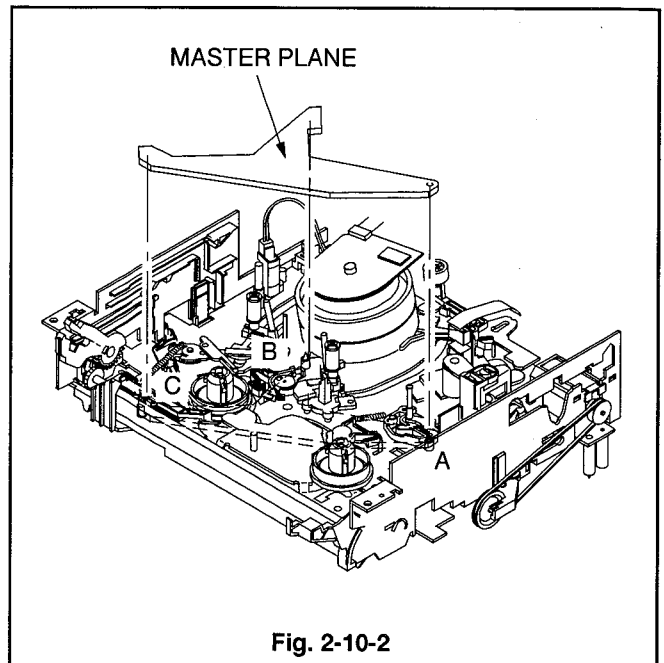
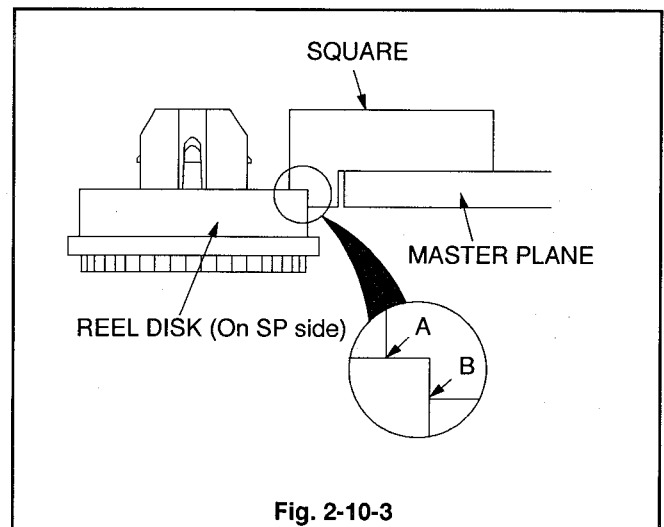
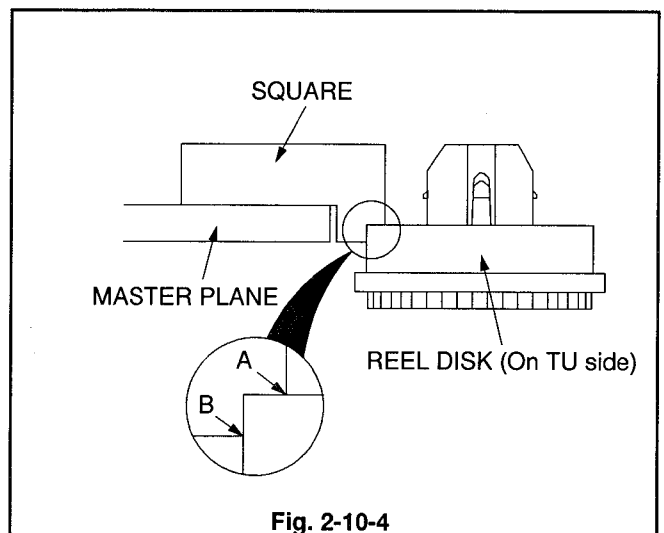

Fig. 2-10-2
Fig. 2-10-3
Fig. 2-10-4
- 3 Place the height adjustment jig [MASTER PLANE] (859C342O20) shown in Fig. 2-10-2 in the reference position.
- 4 Place the height adjustment jig [SQUARE] (859C433O60) shown in Fig. 2-10-2 on the MASTER PLANE. Move it to the position shown in Fig. 2-10-3 to make sure that A can pass but B cannot pass under the REEL DISK (On SP side).
- 10 Place the height adjustment jig [MASTER PLANE] (859C342O20) shown in Fig. 2-10-2 in the reference position.
- 11 Place the height adjustment jig [SQUARE] (859C433O60) shown in Fig. 2-10-2 on the MASTER PLANE. Move it to the position shown in Fig. 2-10-4 to make sure that A can pass but B cannot pass under the REEL DISK (On TU side).